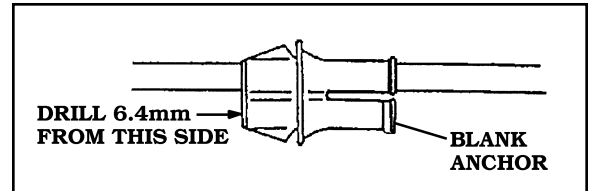

FIGURE 24
2. THIS ANCHOR IS HOLLOW EXCEPT AT ONE END. USE A **6.4mm (.25")** BIT DRILL AS SHOWN IN **FIGURE 24**.